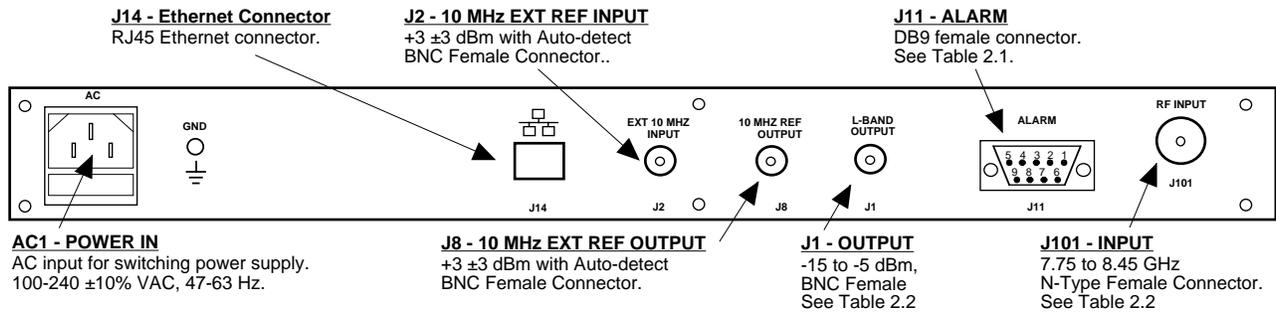

FIGURE 2.1 3116-77#-1200 Rear Panel I/O's
Figure 2.1 shows the input and output connectors on the rear panel.
1. Connect a -10 dBm to 0 dBm signal to RF IN, J101 (Figure 2.1).